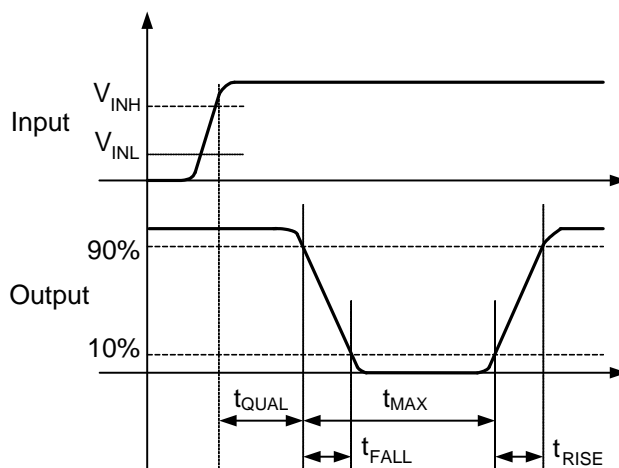

Figure 4. Timing (with EN HIGH)
11. See *Timing Diagram of Figure 4*.